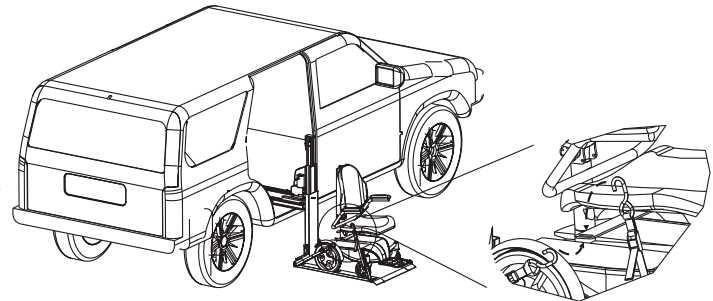

Figure 4-2
3. Secure the Chair. Each corner of the AL690 platform has a restraint attached, with a hook on the end. Place each hook in either the anchor plate slot or in each U-bolt. [Figure 4-2]